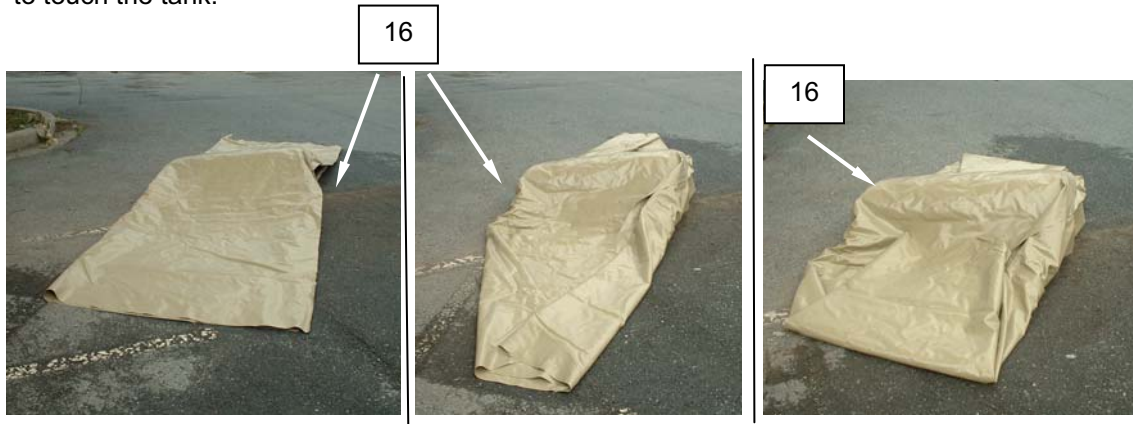

Figure 17. Prepare the 3000 Graywater Tank for Movement.
15. Fold the ground cloth (Figure 17, Item 165) from the remaining side to cover the tank. Then fold the ground cover again to approximately two feet wide at both ends. Fold the ends of the ground cover to touch the tank.